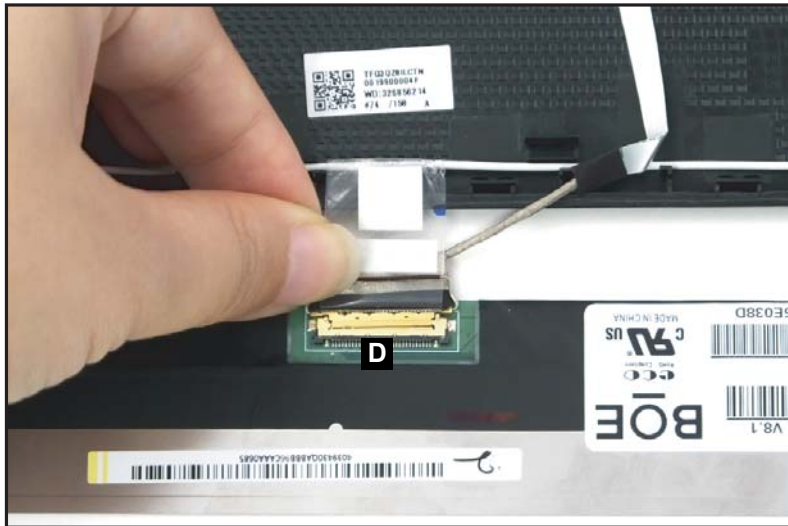

Figure 1-64. LCD Panel Removal
5. Disconnect the eDP cable from the LCD panel connector (D) (Figure 1-64).